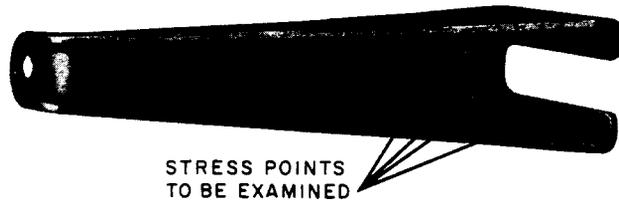

Fig. 3—Bottom of B Pole Step
- (a) Occasionally examine the steps which are being used to check for spreading of the slot and cracks. Pay particular attention to the inside of the steps where the metal is bent and at the inside top edge of the mounting slot. These locations are shown in Fig. 3. It is not necessary to examine